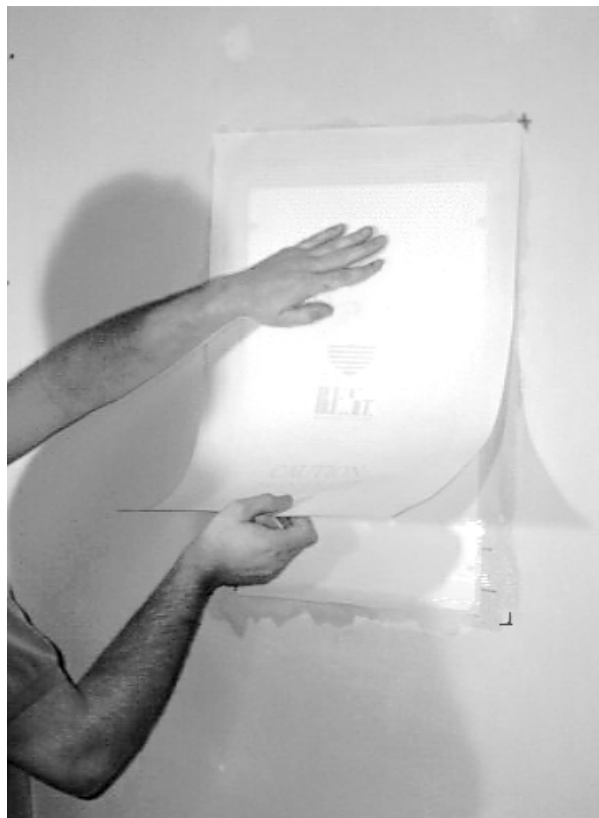

fig. 24
10. Carefully apply the overlay to the outlined adhesive coated area. (please see fig. 24)